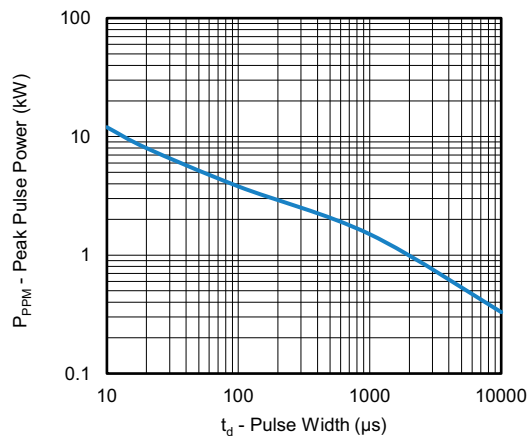

Fig. 1 - Peak Pulse Power Rating Curve
- Fig.1, power calculations is based on I_{PPM} times defined maximum clamping voltage by pulse width